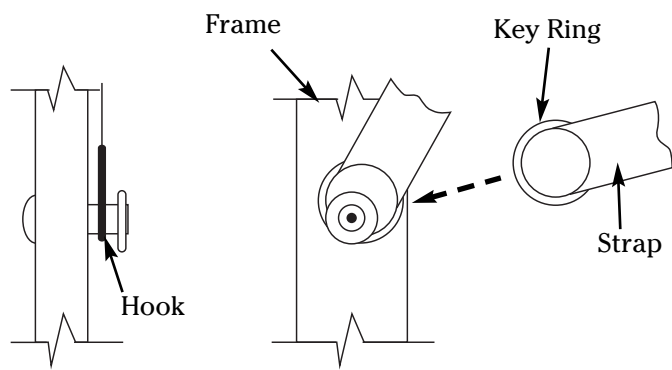

Figure 2
6. At the bottom of the cushion you will find two elastic straps with key rings on the ends (one on each side). Replace back cushion over metal frame. Attach each ring to the hook on the frame next to the seat rings (See fig 2 & 3).